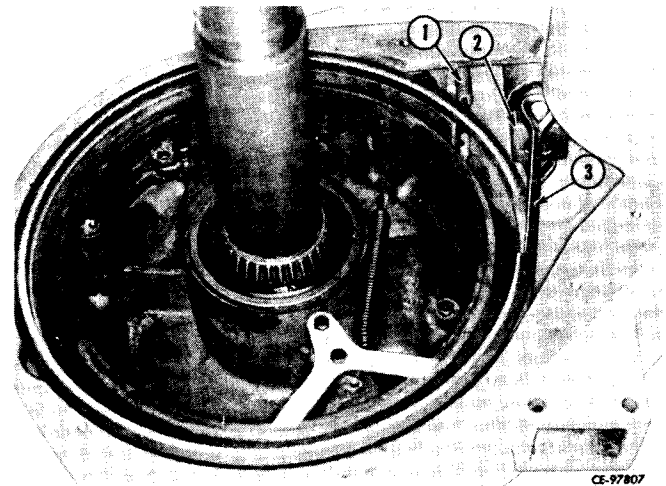

Figure 14-20
Disconnect spring (1, Fig. 14-20) from the brake band (3). Remove yoke (2) and band (3). Be sure brake band is not distorted during removal or subsequent handling.
Position brake band (3, Fig. 14-20) in case and attach brake band spring (1). Install yoke (2) in brake band eyes with flat side of yoke facing the brake cylinder.